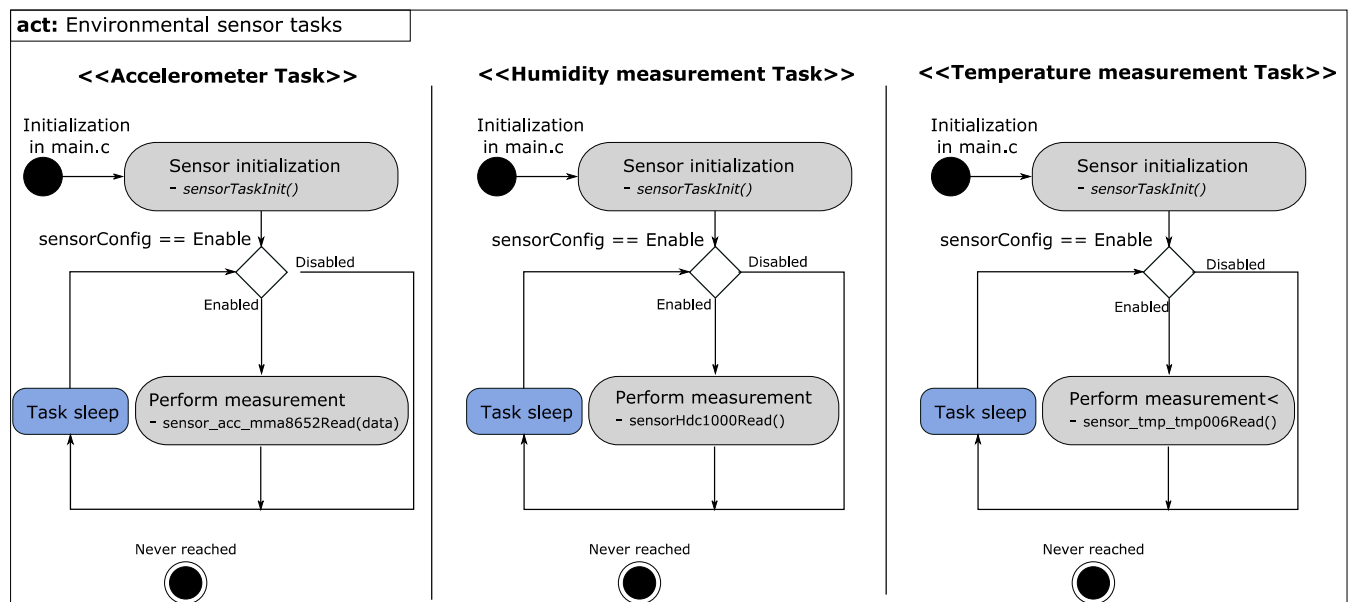

Figure 12: Architecture of Parallel Tasks and their Internal Behavior
The task function of the particular task will be declared during task creation. All sensor driver APIs (Enable sensor, Read sensor value, etc.) will be called in their respective sensor task functions (*sensorTaskFxn*). The definition of the driver APIs are found in the *Devices* folder followed by the sensor name, e.g. *tmp_tmp006.c* (temperature sensor). The implementation of the task function method *sensorTaskFxn* of the *SensorTag_Tmp* task, located in *Application\SensorTag_Tmp.c*, shows an infinite loop inside the temperature measurement task. Figure 12 shows the architecture of parallel tasks and their internal behavior.
The phyNODE comes pre-configured with five removable jumpers (JP) and one configuration capacitor (C24). The jumpers allow flexible configuring of a limited number of features for development purposes to the user. Figure 12 indicates the location and the default configuration of the removable jumpers and the configuration capacitor on the board. In this figure a beveled edge indicates the location of pin 1. Table 8 provides a comprehensive list of all carrier board jumpers. The default setting is marked in blue text.